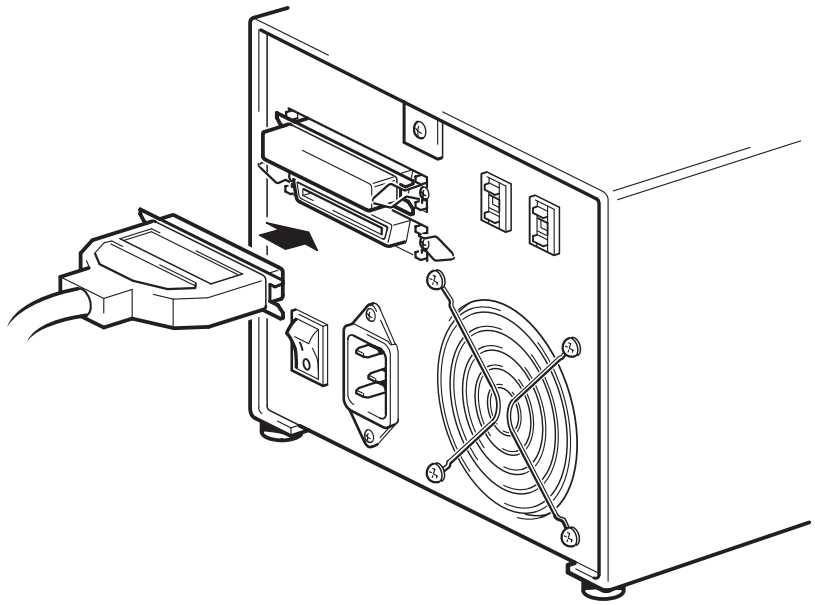

Figure 5a: attaching SCSI cable, HP Surestore DAT 24x6
- 3 Attach the other end of the SCSI cable to one of the SCSI connectors on the rear panel of the autoloader. (See figure 5a.) Snap both of the retaining clips over the connector to secure it firmly in place.